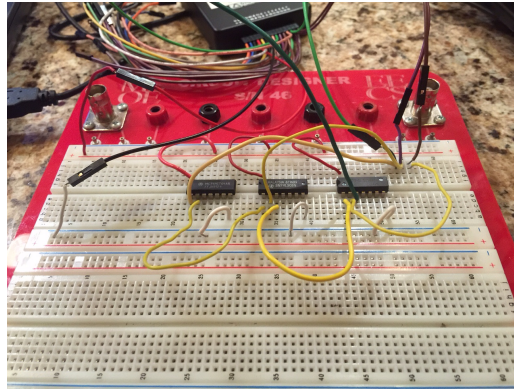

Figure 10: Multiple Chips Interconnected with Wire
- b. **Note** that the schematic shows chip numbers and suggested pin numbers. **Refer** to the 7400 family datasheets to see how the pin numbers were chosen. Each chip has multiple gates. Chip gates are simply assigned to schematic gates one at a time. Each gate's pins are added to the diagram. The diagram then guides wiring. Figure 10 shows powers, grounds, and wires interconnecting pins.